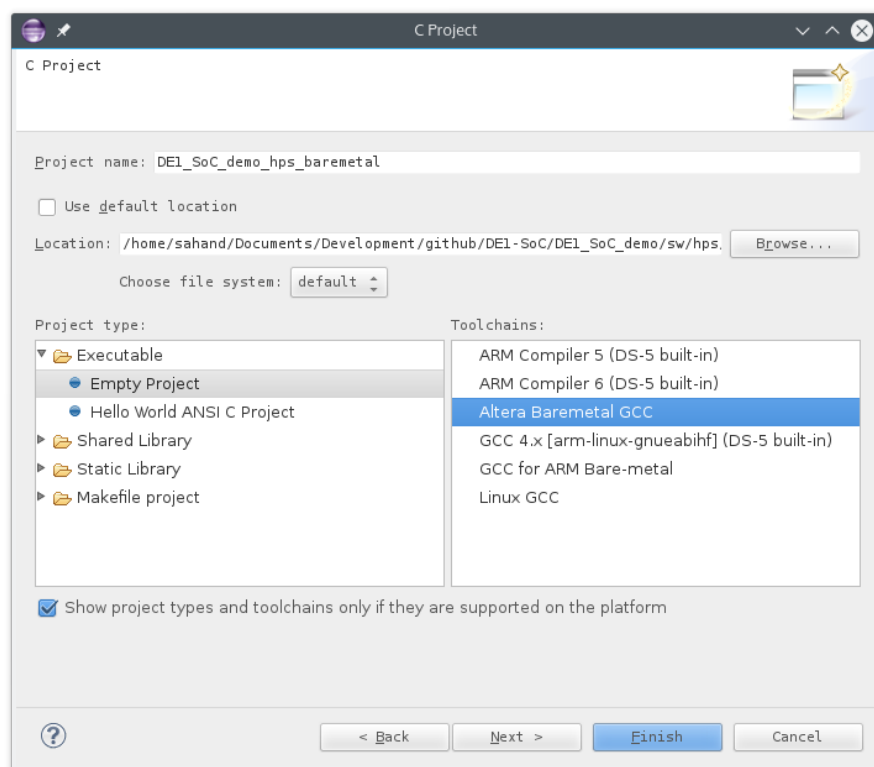

Figure 8-27. New C Project Dialog
- f. You should have something similar to Figure 8-27. Then, press the “Finish” button to create the project.